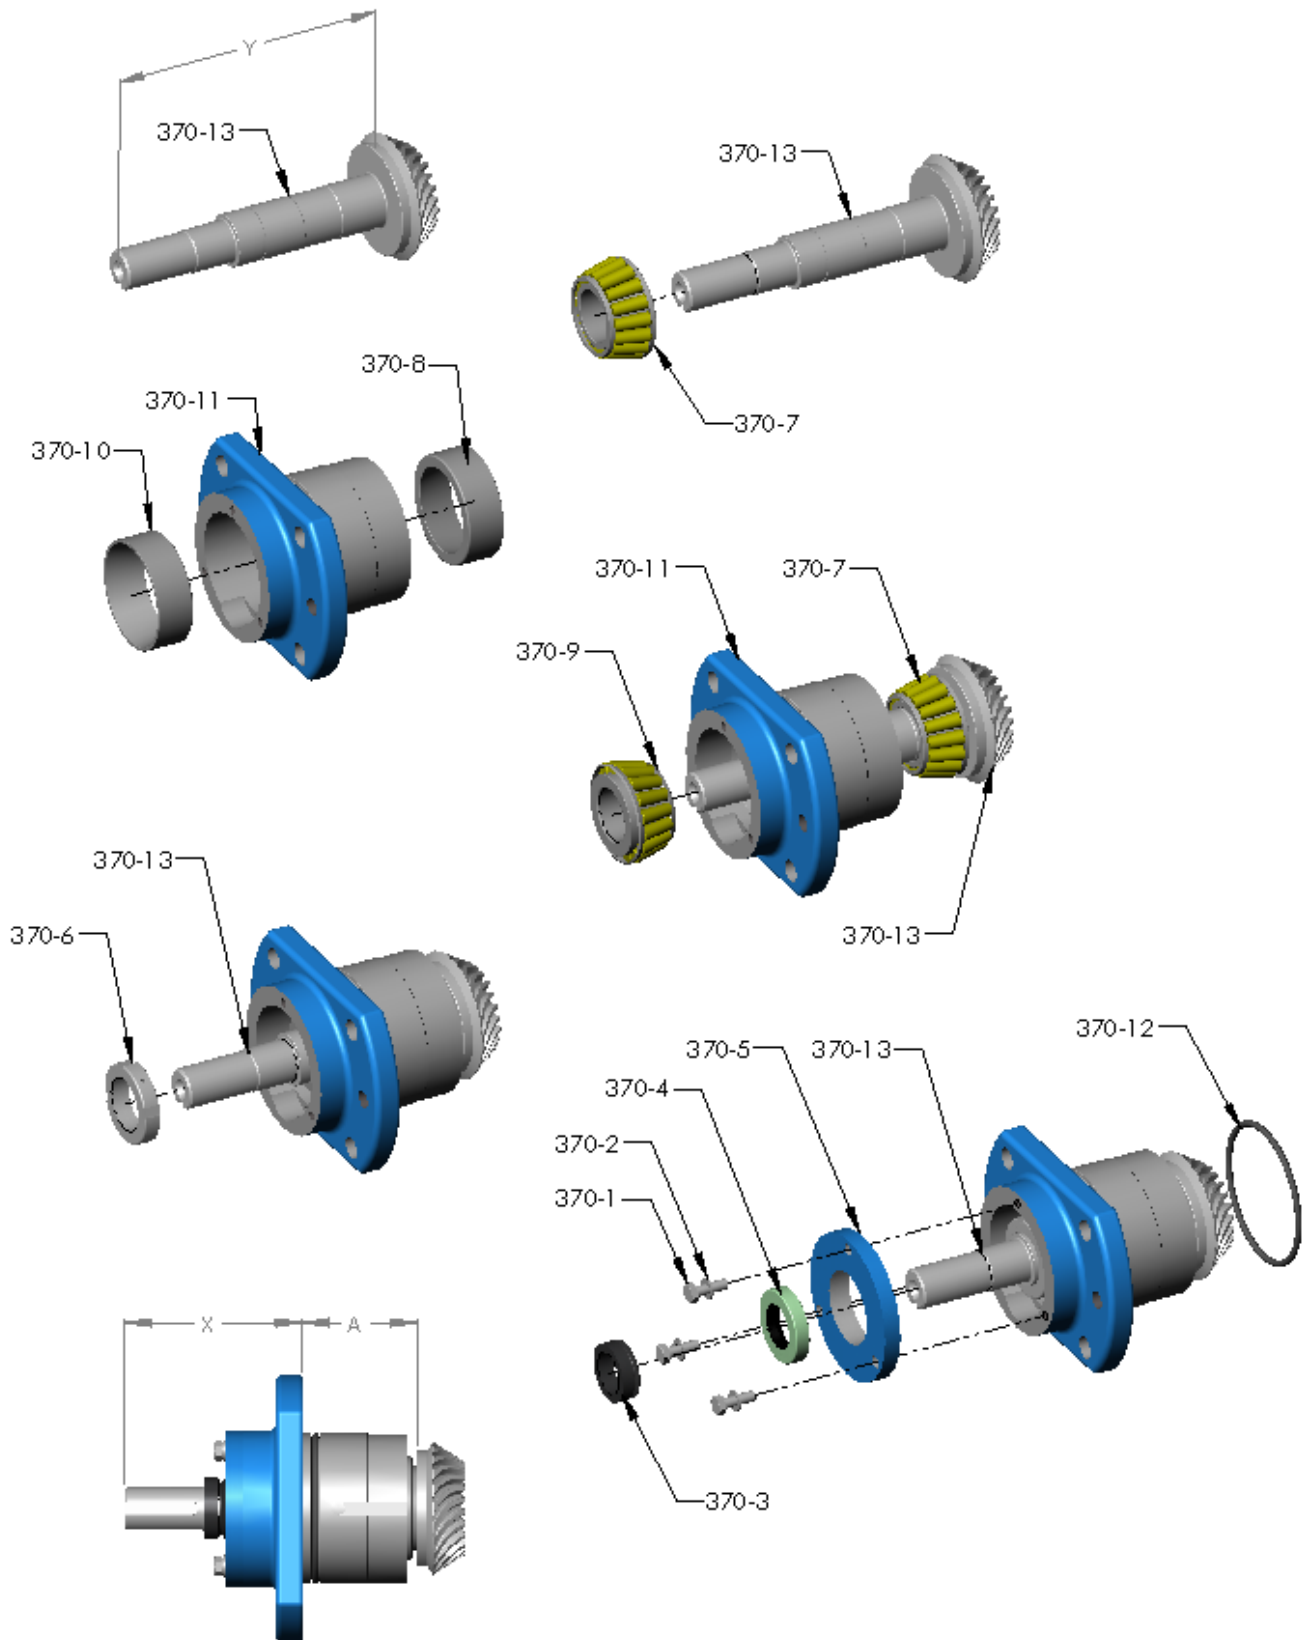

Figure 21 – Spiral Bevel Cartridge Assembly
- P. Assemble the spiral bevel cartridge [370] (refer Figure 21)
- (1) Wash the cartridge [370-11] and the spiral bevel pinion [370-13]
- (2) Measure length 'Y' on the spiral bevel input shaft [370-13] before any assembly is started
- (3) Heat bearing cone [370-7] to 120°C [248°F] and press it on to the shaft [370-13]
- (4) Spray the cartridge ID with Zepreserve or light machine oil and press bearing cups [370-10] and [370-8] into the cartridge [370-11]
- (5) Assemble the shaft [370-13] into the cartridge [370-11]. Heat second bearing cone [370-9] to 120°C [248°F] and install it on to the shaft
- (6) Insert locknut [370-6], with setscrew in place but loose
- (7) Spray bearings with Zepreserve or light machine oil and tighten locknut [370-6] to obtain shaft turning preload torque of 9.0 in.lbs (plus 0, minus 2 in.lbs)
- (8) Rotate shaft one full turn to check for binding. Torque reading is to be taken through ¼ turn of shaft, requiring 5 seconds to complete the ¼ turn
- (9) Tighten locknut setscrew using a shortened allen wrench
- (10) Install lip seal [370-4] into the end cap [370-5]. Apply three-bond sealant (or any other suitable sealing compound) to the end cap [370-5] on the area that will be contacting the housing [370-11].